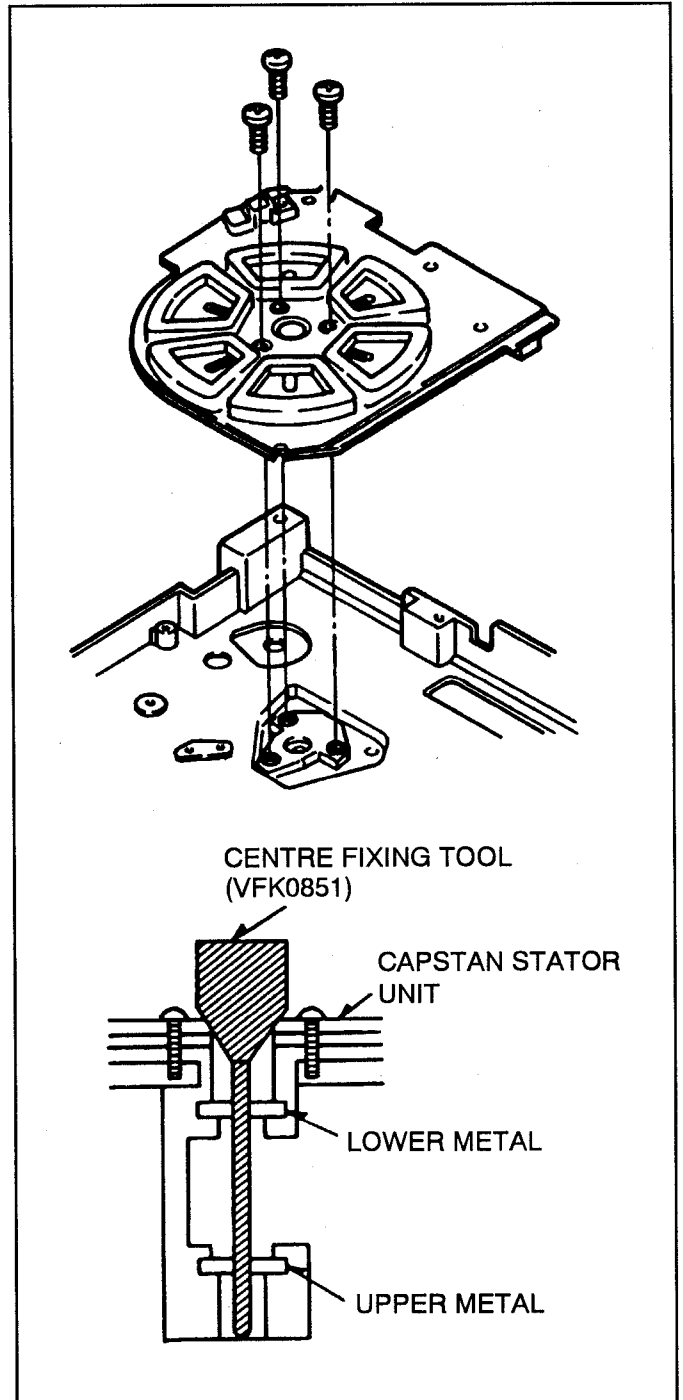

Fig.S9
- 3) Insert the Centre Fixing Tool (VFK0851) as show in Fig.S9.